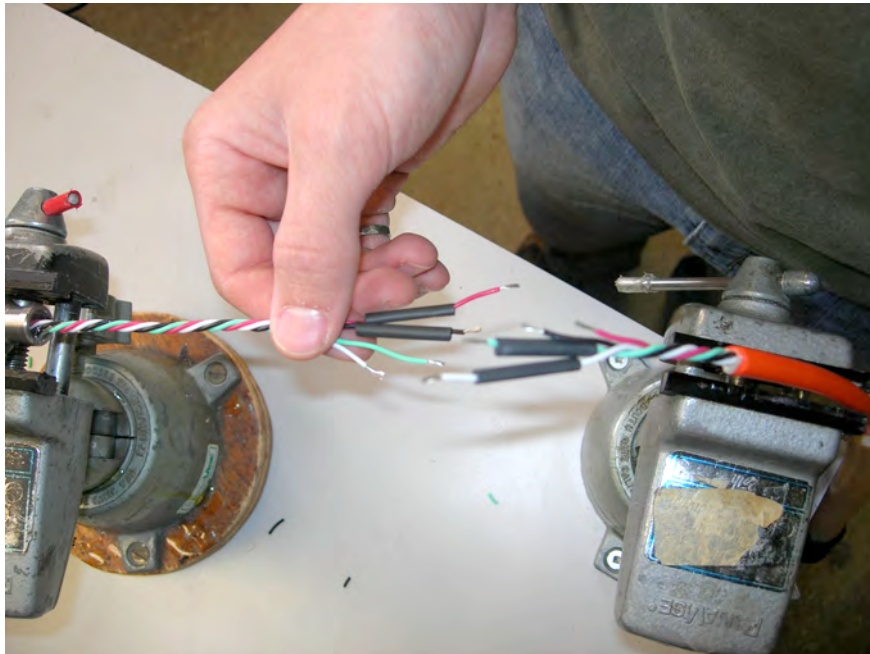

Figure 8: Wires prepared for soldering.
12. Put four pieces of heat shrink on the wires, either the cable or connector side (Figure 8).
13. We recommend using two vises to hold the assembly while soldering the wires together as shown in Figure 8.